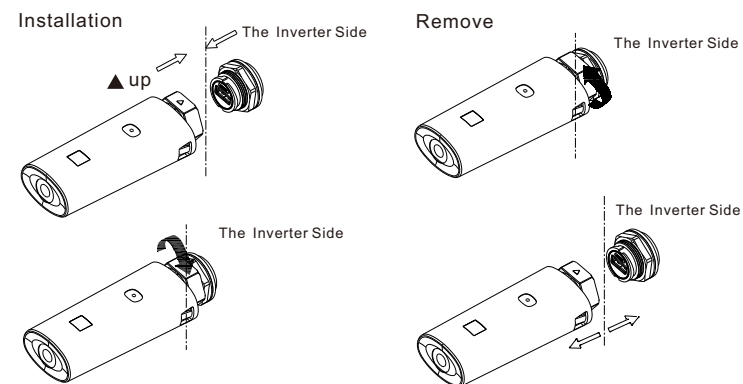

Fig 6.8B
- 3> As shown in Figure 6.8B, make sure that the  $\triangle$  is facing upwards, insert the monitoring module into the USB interface, and tighten the lock.